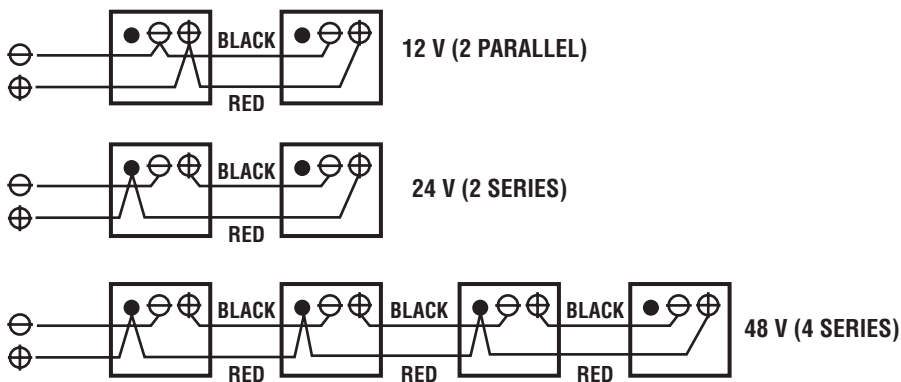

Figure 3. Wiring Examples
- The Spare terminal can be used to wire arrays at different voltage configurations. Figure 3. Shows examples of the standard 12, 24 and 48 V configurations.